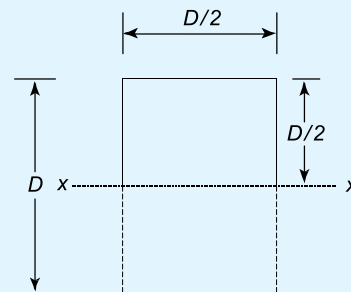

Figure 10.10
4. If the cross-section of the beam of Problem 3 were of rectangular shape, as shown in Figure 10.10, determine its dimensions. Bending can be assumed to take place about the xx axis.